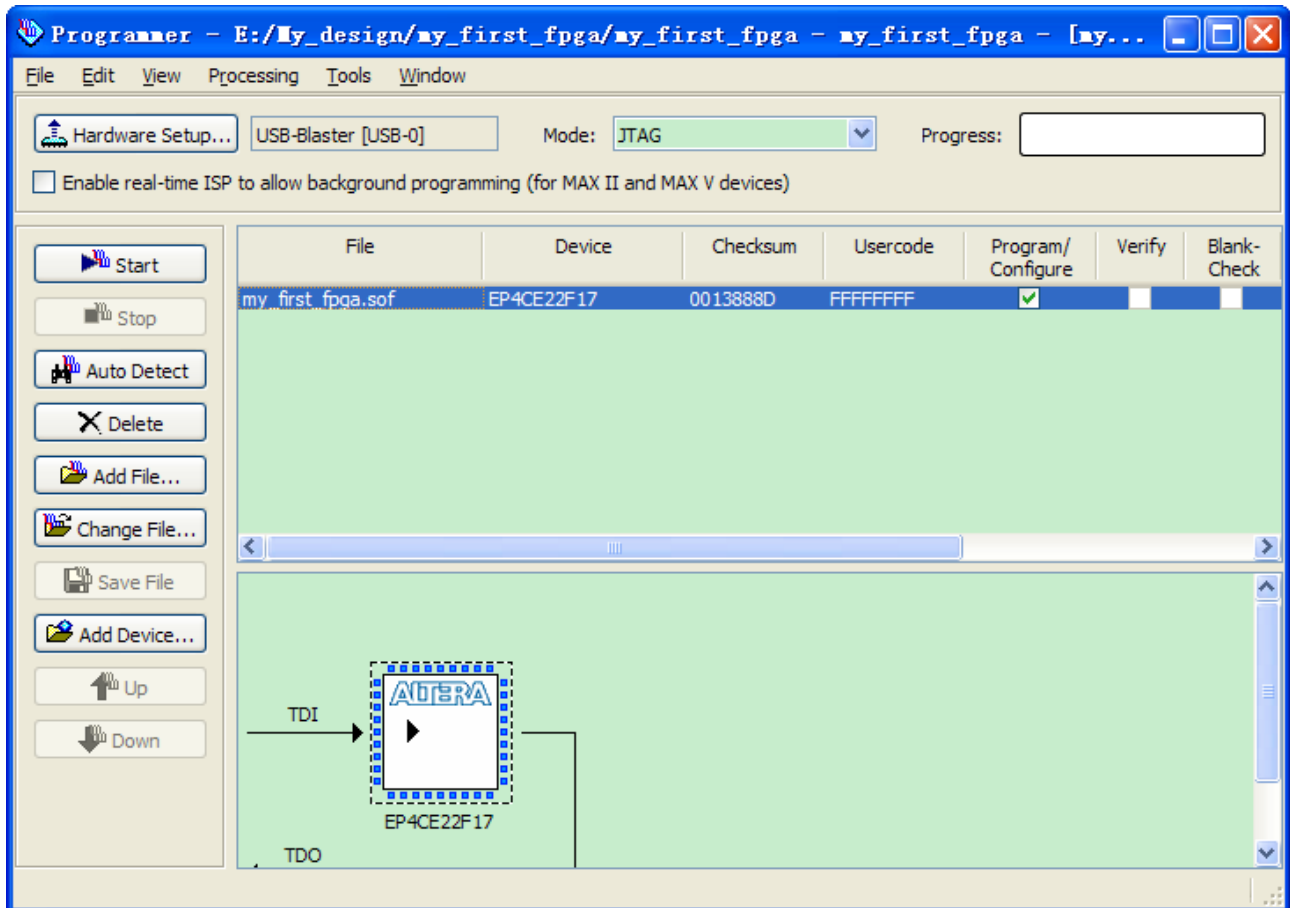

Figure 6-46 Programmer Window
1. Select **Tools > Programmer**. The Programmer window opens, as shown in **Figure 6-46**.